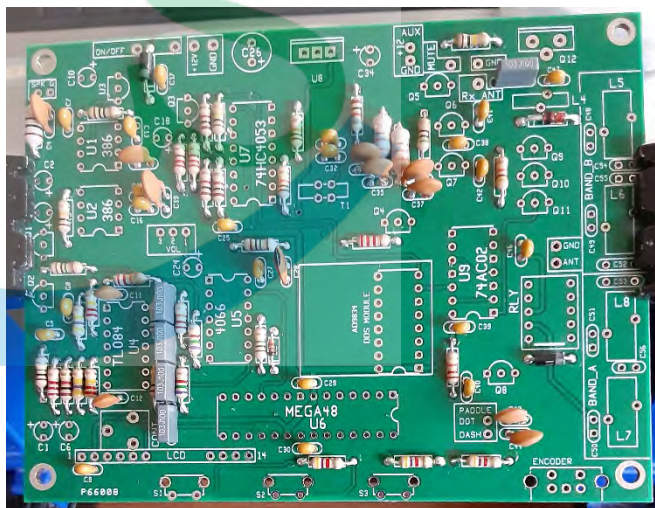

Figure 5
In keeping with the traditional methodology of installing components shortest to tallest, I sorted and installed the disc and film capacitors next. Out of the forty-seven capacitors installed in this group, twenty-one are of one type – a 0.1 μ F (104) MLCC type. There are five 0.01 μ F (103) film capacitors, nine 0.001 μ F (102) disc capacitors, one 100pF (101) disc capacitor, and two 470pF (471) disc capacitors (Figure 5). The astute reader will have noticed that this listing accounts for only thirty-eight of the total forty-seven non-polarized capacitors. Here's why...